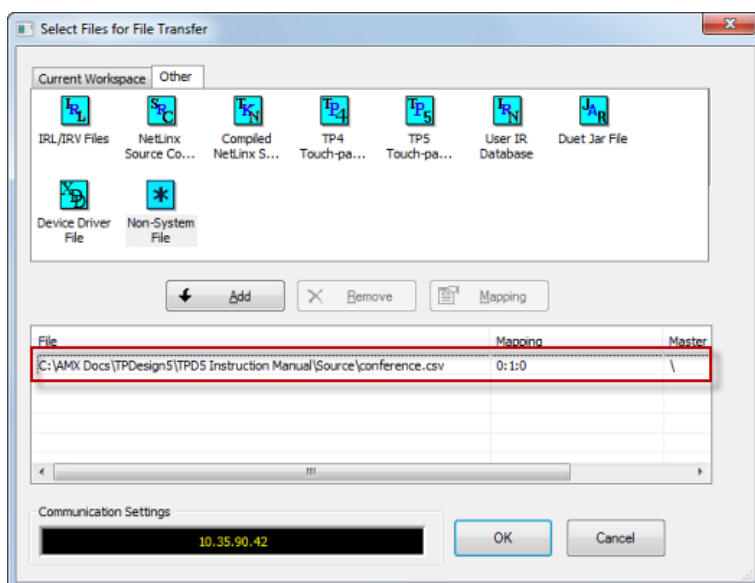

FIG. 162 NetLinX Studio 5 - Select Files for File Transfer dialog indicating a CSV file for transfer
6. In the *Select Files For File Transfer* dialog, the selected file and its device information are indicated in the *Files* list (FIG. 162):